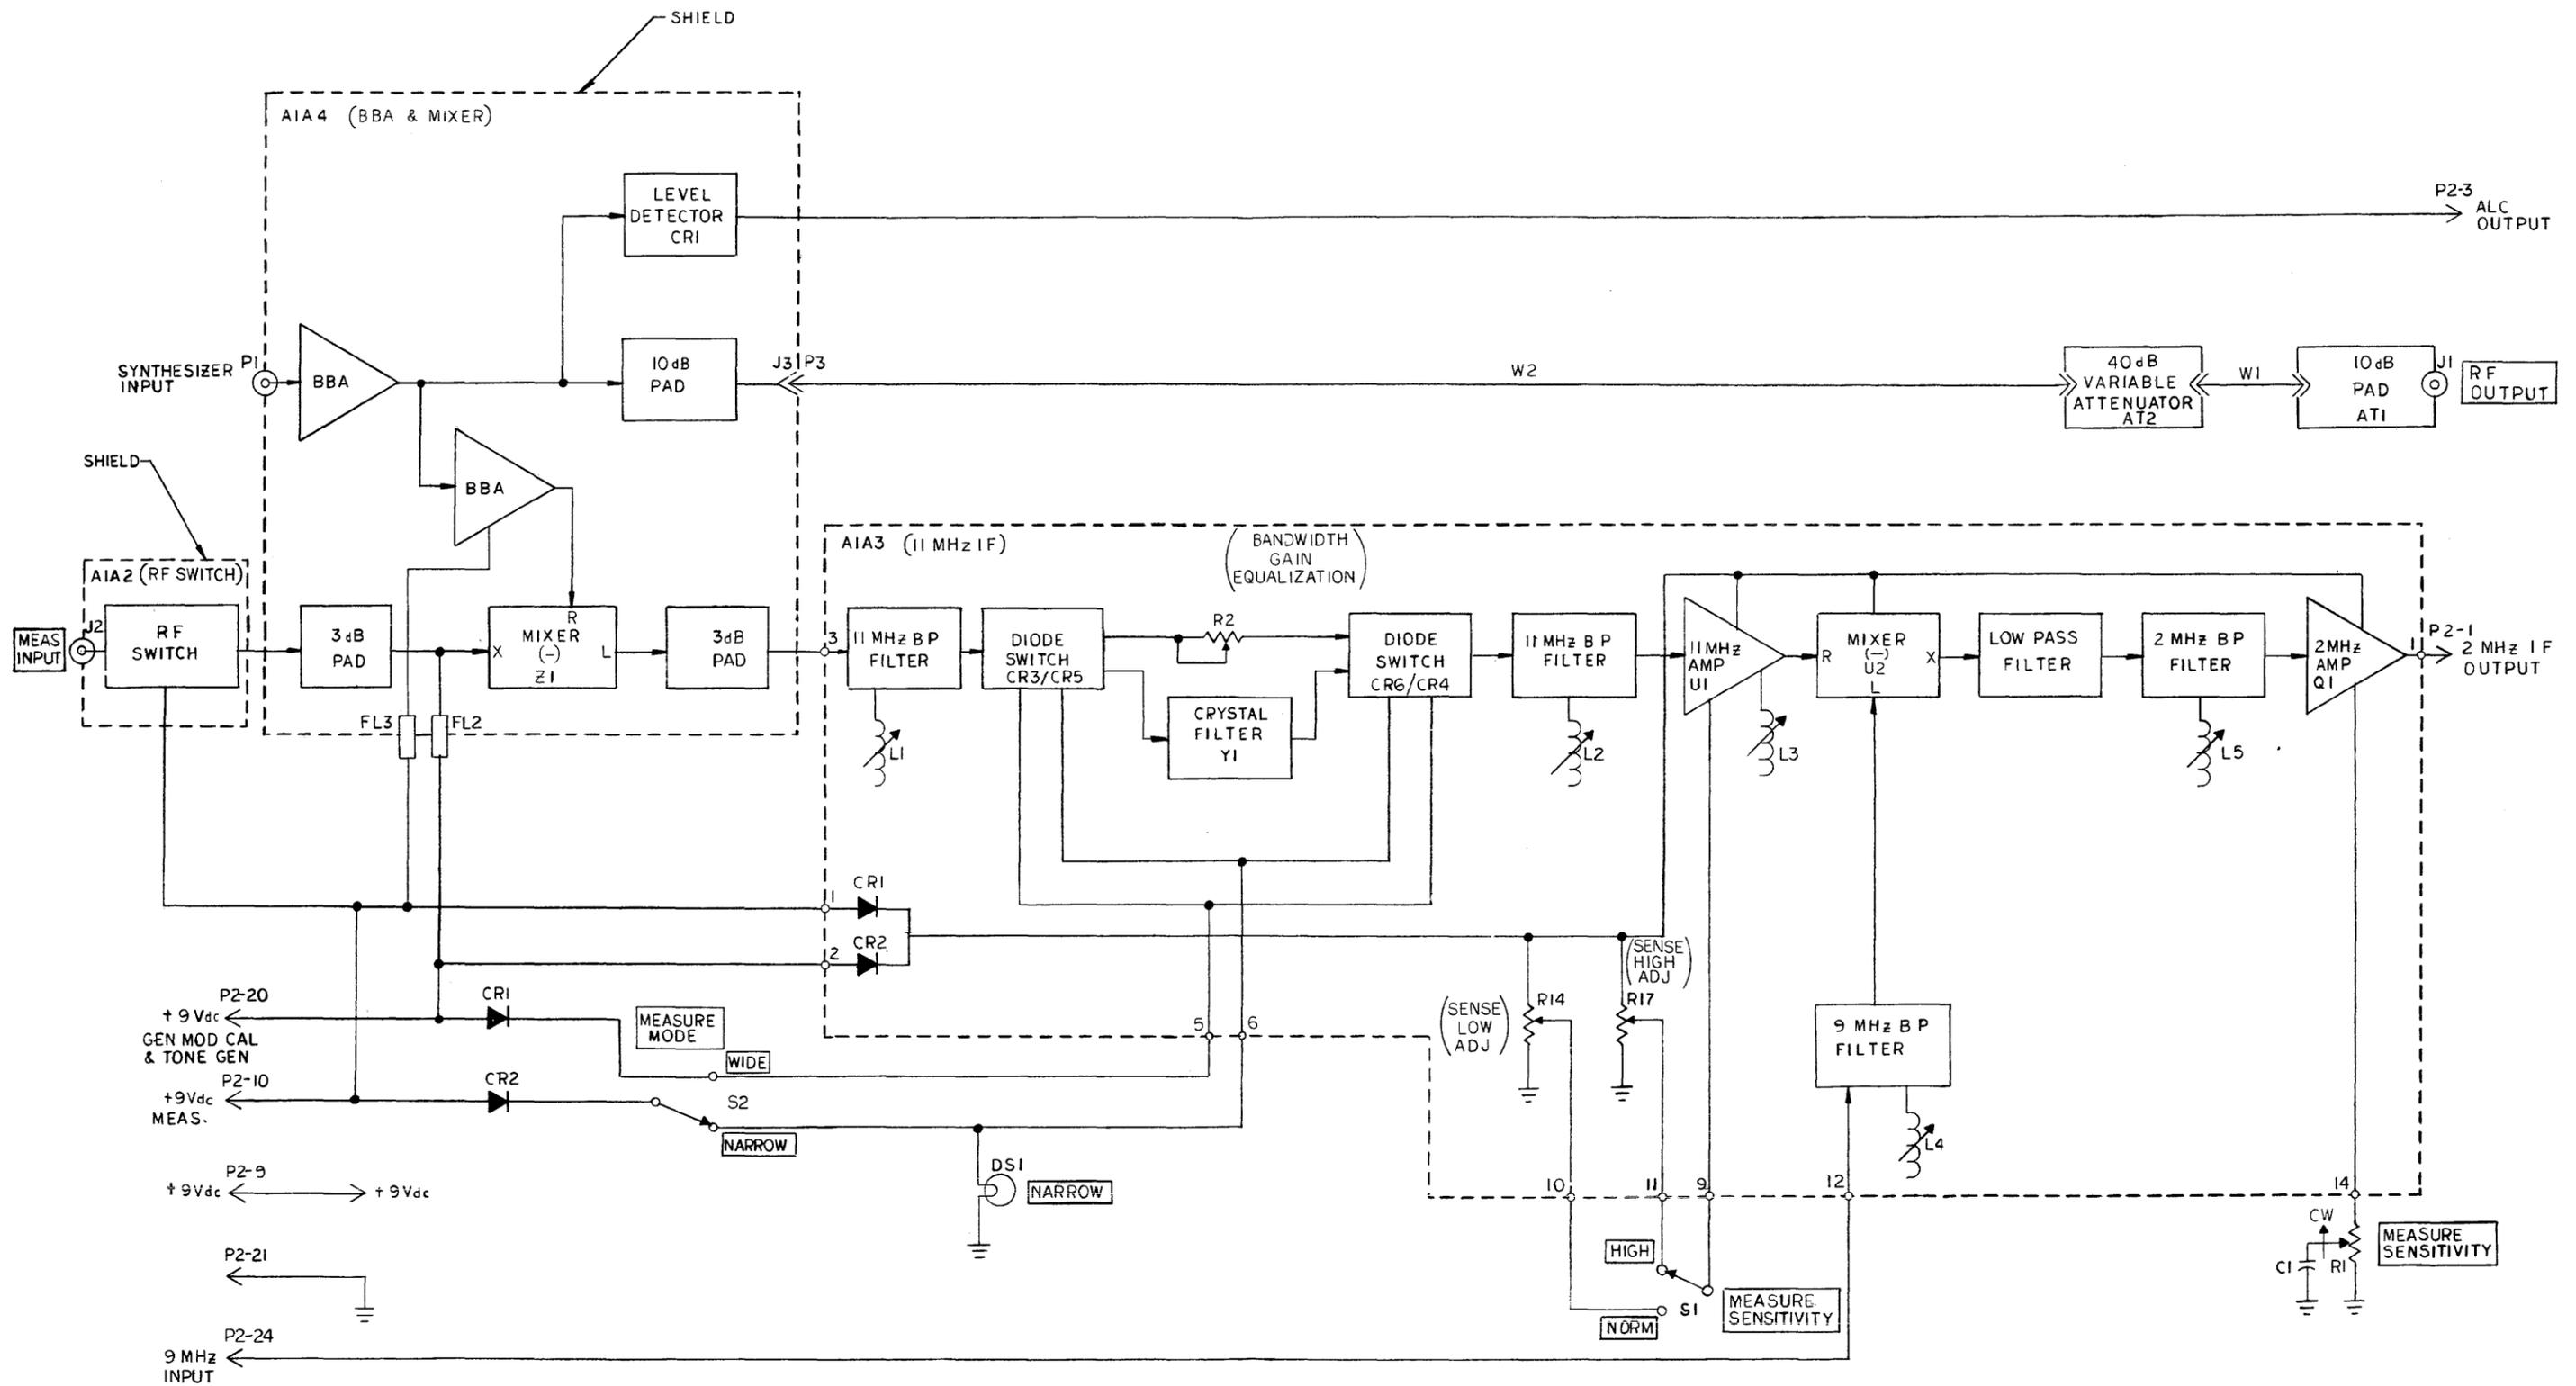

Figure 3-3 - Detailed Block Diagram
- a) The detailed block diagram, Figure 3-3, should have a Broadband Amplifier as the A1A2 Assembly.